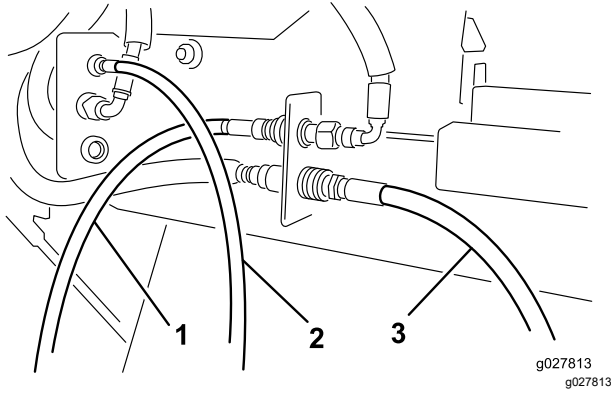

Figure 5
5. Connect the hydraulic motor hose quick couplers to the Versa Vac couplers as shown in Figure 5.